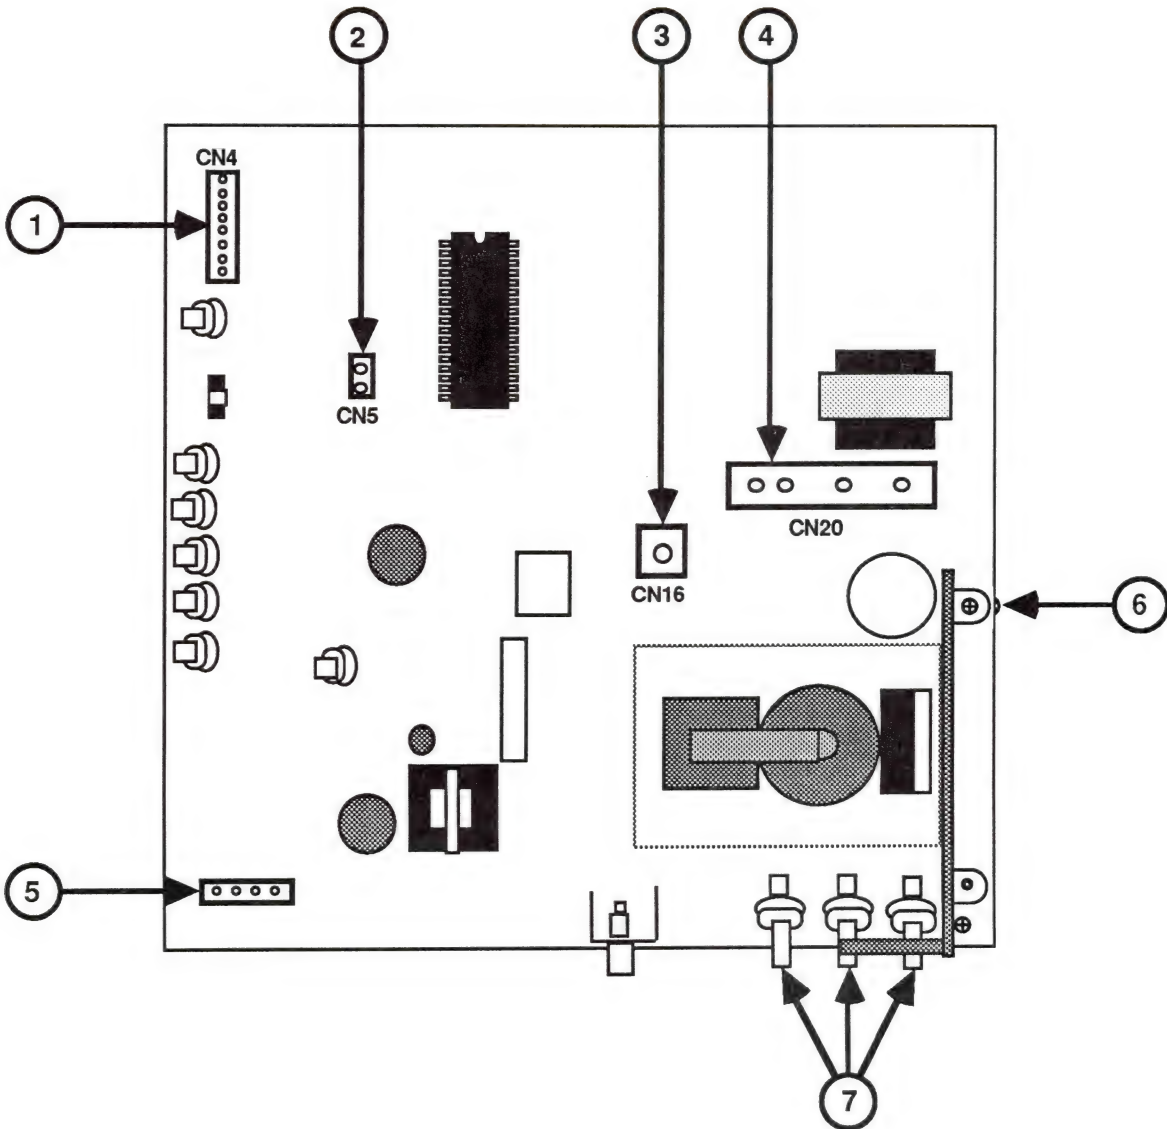

FIGURE 13
- B. The rubber standoff that you removed from the defective board must be reinstalled. To do this, reinstall the two screws (one from above, one from below) that hold the rubber standoff (Figure 13, #6) in place between the logic board and the metal chassis.
- C. The three rear plastic control knobs (Figure 13, #7) that you removed from the defective logic board must be replaced.
- a) CN4 -- Figure 13, #1 (the connector from the control PCB at the front of the monitor)
- b) CN5 -- Figure 13, #2 (the connector from the White Only switch at the front of the monitor)
- c) CN16 -- Figure 13, #3 (the black wire coming off the silver ground strap surrounding the CRT)
- d) CN20 -- Figure 13, #4 (the large connector coming off the CRT neck)
- e) CN14 -- Figure 13, #5 (the connector with four colored wires that are soldered at the other end to the CRT socket board)